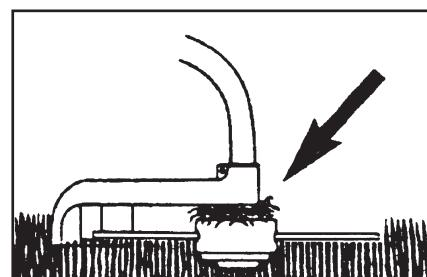

Fig. 15.
5. Switch off the engine and using something like a screwdriver, clean off any grass and debris from around the guard and trimmer head, otherwise it could impair the cooling of the drive shaft. See fig. 15.